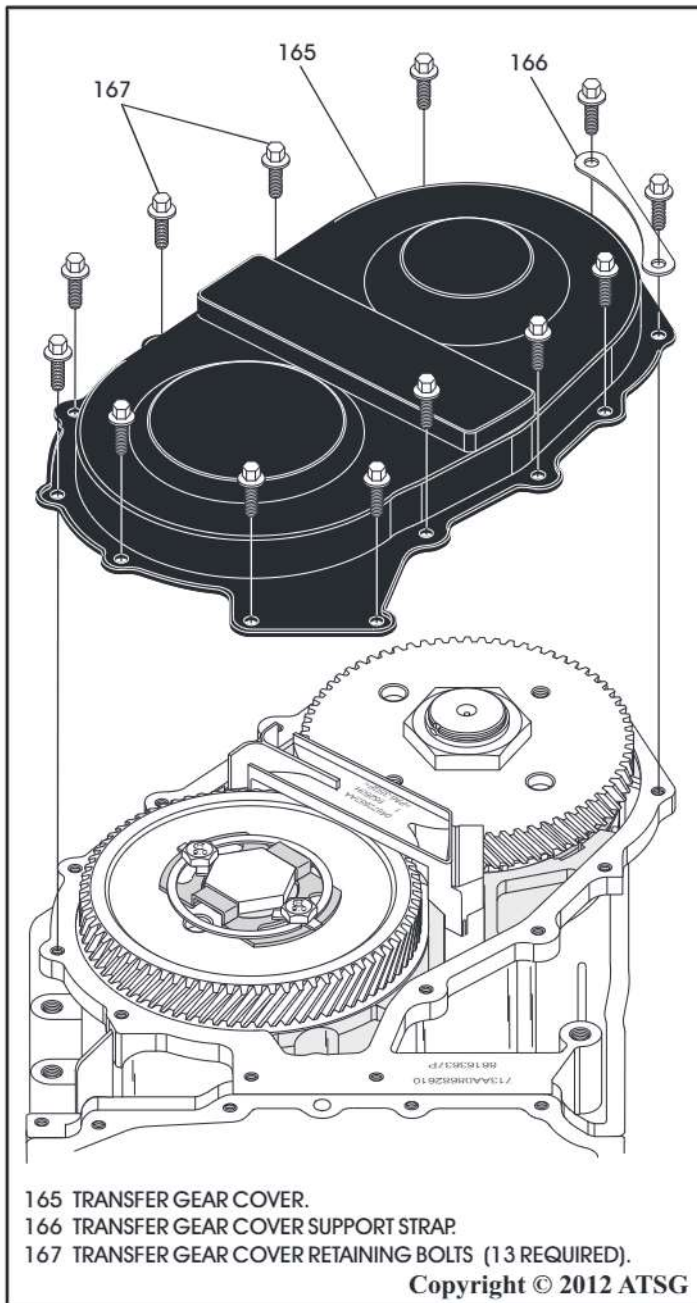

Figure 71
59. Remove the 13 transfer gear cover retaining bolts, as shown in Figure 71.
60. Remove the transfer gear cover and the support strap, as shown in Figure 71.